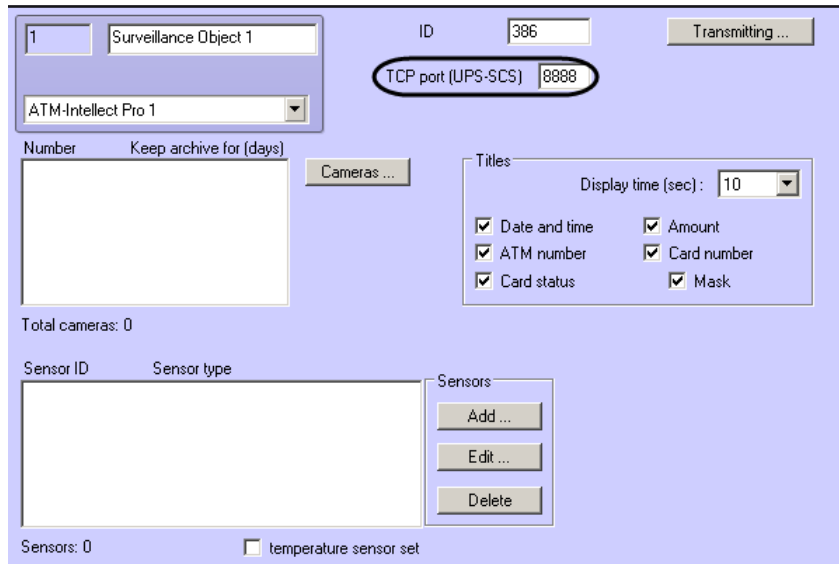

Fig. 8.4—2 Setting the port used to listen for messages from the UPS and “Smart Card Service” ATMs
1. Go to the **Surveillance Object** object setting panel (Fig. 8.4—2).
2. In the TCP port (UPS-SCS) field enter the port used to listen for messages from the UPS and ATMs made by Smart Card Service (Fig. 8.4—2).